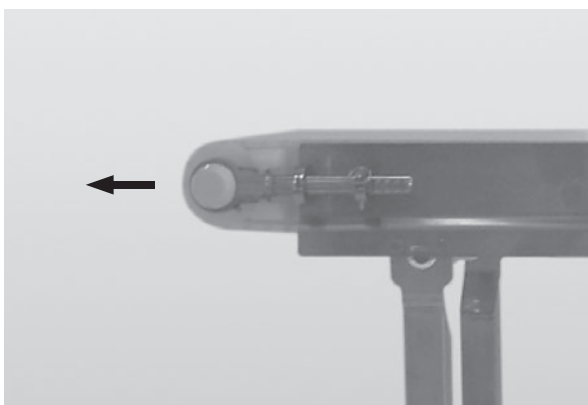

Figure 31
- Extend the tension end to remove excess slack in the belt (**Figure 31**).